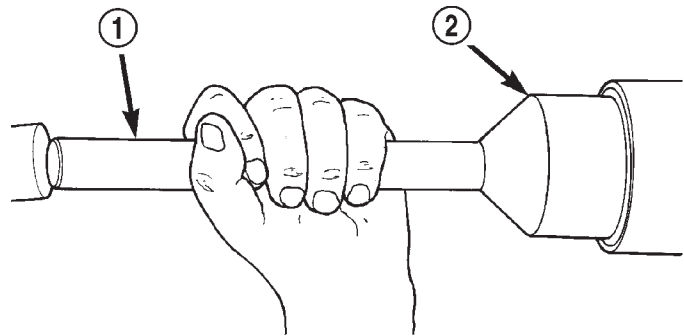

Fig. 11 Pinion Seal Installation
- (1) Apply a light coating of gear lubricant on the lip of pinion seal. Install seal with Installer C-3972-A and Handle C-4171 (Fig. 11).